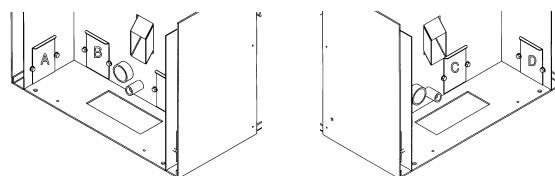

FIGURE 26
- Scrape ash in firebox into the under-stove bin through the opening under the slider plate (see Figure 26) or vacuum to remove ashes.
- b. **Interior Chambers** – Four ash doors in the firebox in the P23 can be removed for periodic cleaning (refer to figure 26). These doors allow access to the chamber surrounding the firebox.